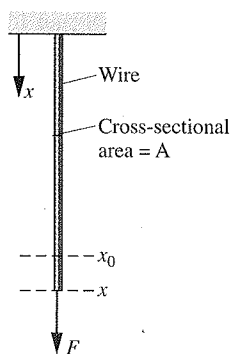

Fig. P2.43
- 2.43 As shown in Fig. P2.43, a steel wire suspended vertically having a cross-sectional area A and an initial length x_0 is stretched by a downward force F applied to the end of the wire. The normal stress in the wire varies linearly according to $\sigma = C\varepsilon$, where ε is the strain, given by $\varepsilon = (x - x_0)/x_0$, and x is the stretched length of the wire. C is a material constant (Young's modulus). Assuming the cross-sectional area remains constant,